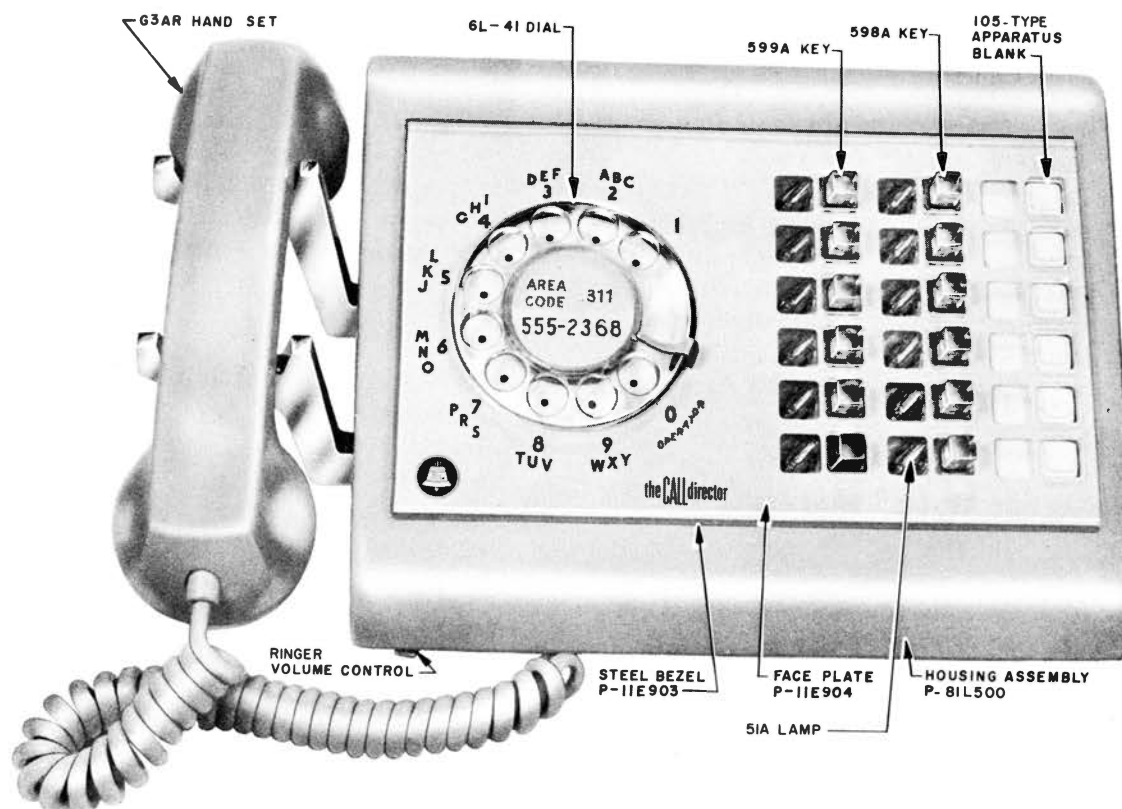

Fig. 1 — 634-Type Telephone Set
1.03 The 634-type (18-button) and the 635-type (30-button) telephone sets (Fig. 1 and 2), are similar in appearance to the 630- and 631-type telephone sets. They may be used in 1A1, 1A2, and 6A key telephone systems.